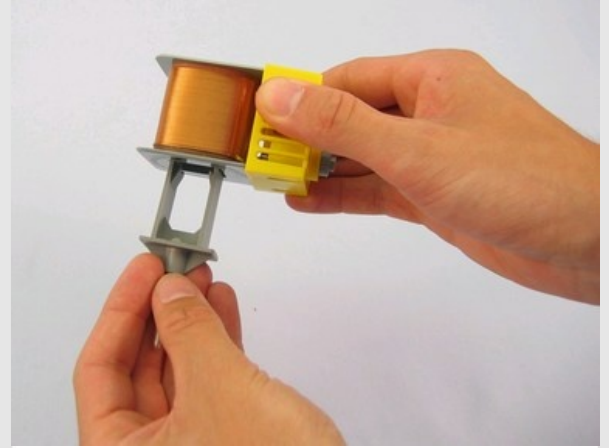
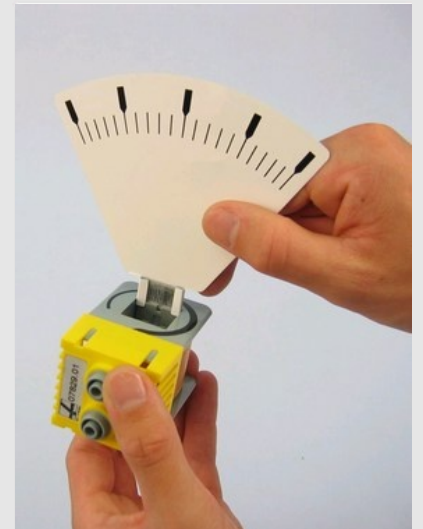

Fig. 1
Fig. 2
- Assemble the model of the galvanometer according to Fig. 1 and Fig. 2: